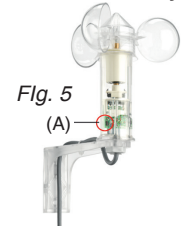

Fig. 5
- The motor needs the following complete movement (figure 5) to memorize the limit position. (Press the button to move the motor in the requested direction). The motor will give a feedback (short up/down movement) to confirm that the installation procedure has ended.
- Hold magnet close to PROG POINT, the yellow LED will be lit up. See Fig. 5 as described in (A).